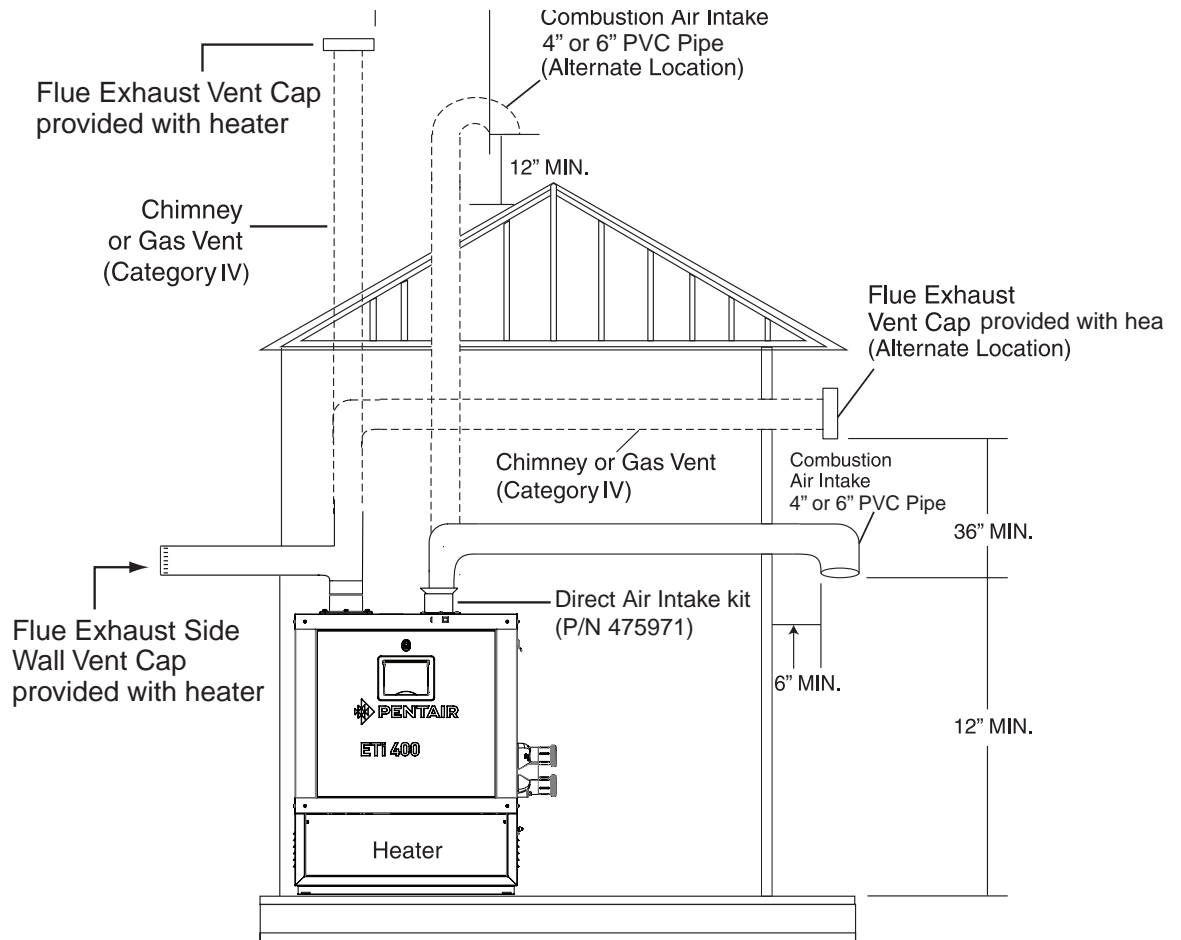
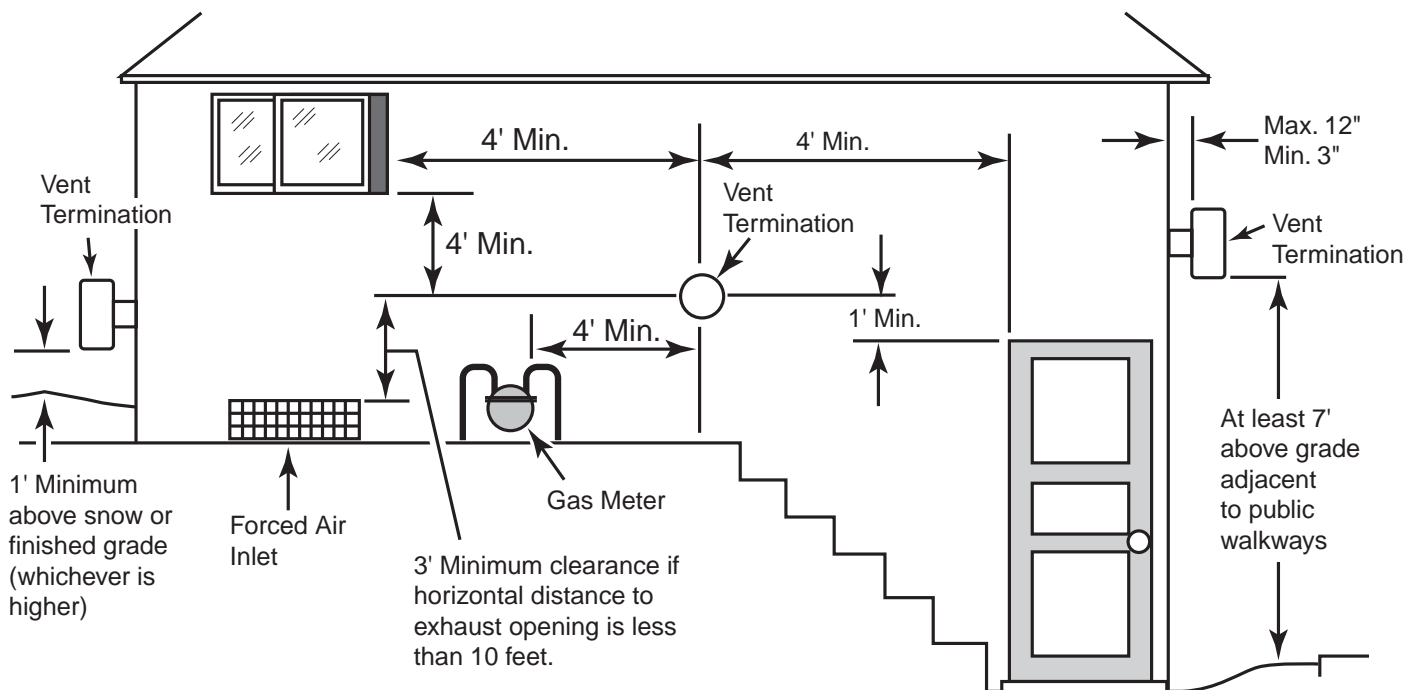
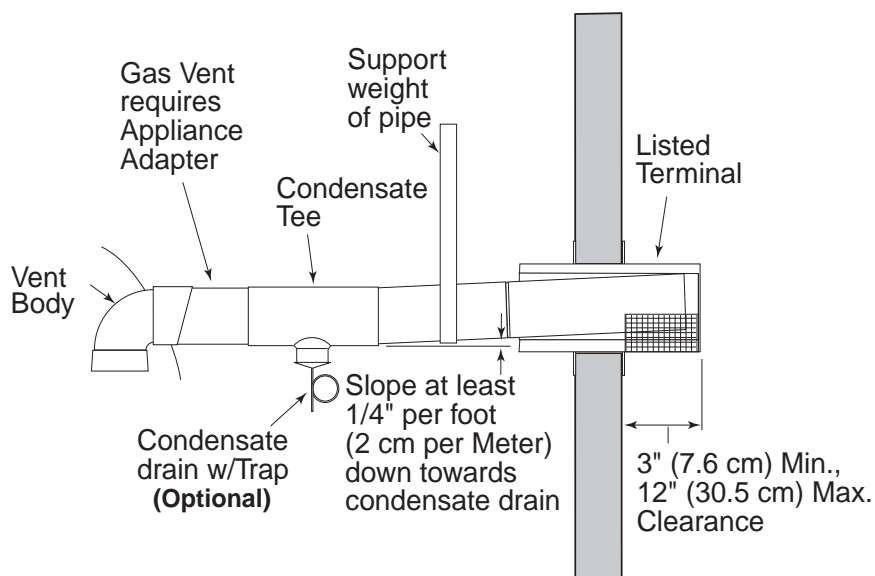
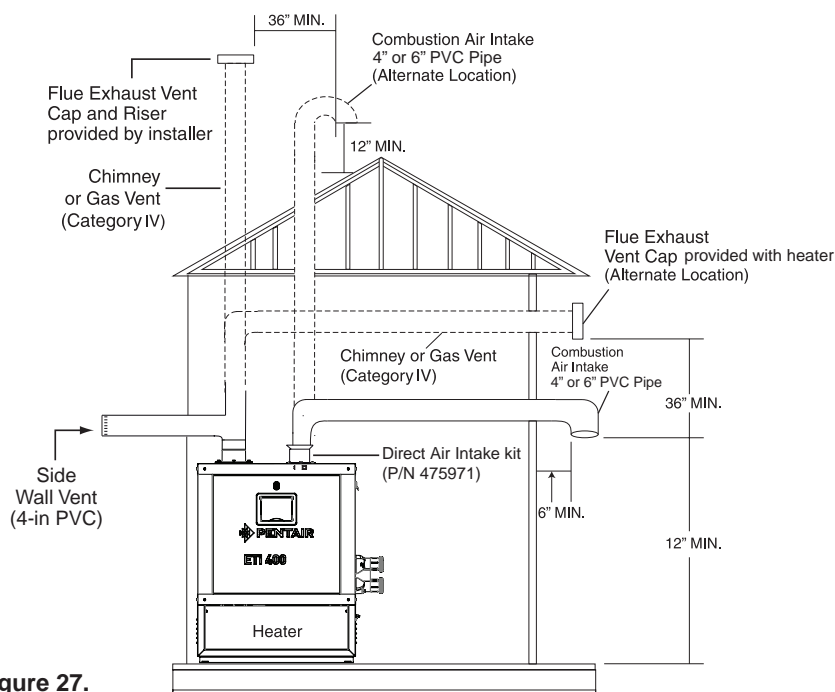

Figure 22.
Figure 25.
Figure 26.
Figure 27.
An appliance that operates with a *positive* vent static pressure and with a vent gas temperature that allows excessive condensate production in the vent, see Figure 22 (page 29) and Figure 25, page 33.
The air intake opening MUST be installed at least 1 ft. above the roof line or normal snow levels for free air flow. The Category IV exhaust vent termination cap must have at least 3 ft. (1 m) minimum vertical clearance from air intake duct, see Figure 22.
**(See Figure 26, page 34 and Figure 27, page 35)**
3. **Vent Termination:** Vertical (See Figure 25 below and Figure 27 on page 35), for height of vent termination above the roof. Use an *Approved* vent terminal specified by local and national codes and your manufacturer's instructions. A roof termination must be vertical. In Canada, the Vent Cap location shall have a minimum clearance of 4 feet (1.2M) horizontally from electric meters, gas meters, regulators, and relief openings.
The terminal must be located (U.S. – See Figure 25 on page 33):
- at least 3" and at most 12" out from the wall (see Figure 27 on page 35), following the vent manufacturer's instructions
The terminal must be located (Canada – See Figure 25 on page 33):
It is recommended that the intake vent (see Figure 27) be insulated in colder climates.